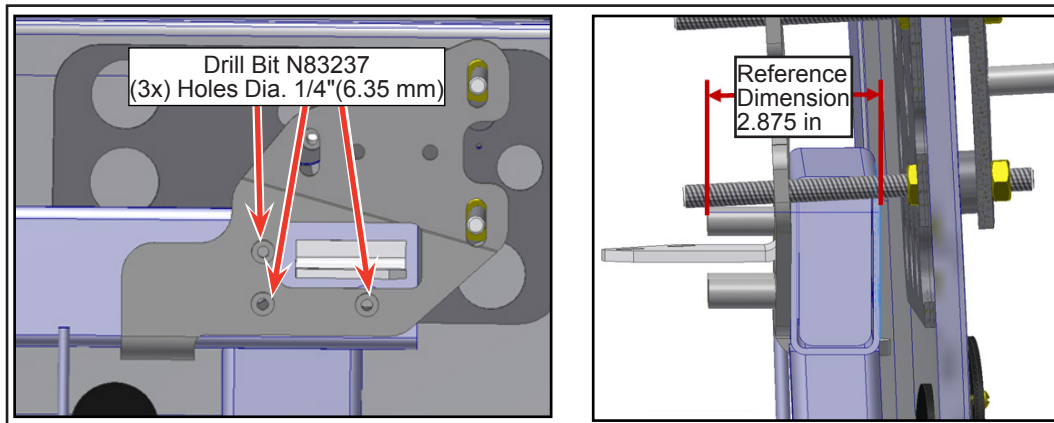

Figure 14 - Location of Drilled Holes through tube
- 1.15. Drill (3x) holes using drill bit N83237 through both walls of the tube (see Figure 14).